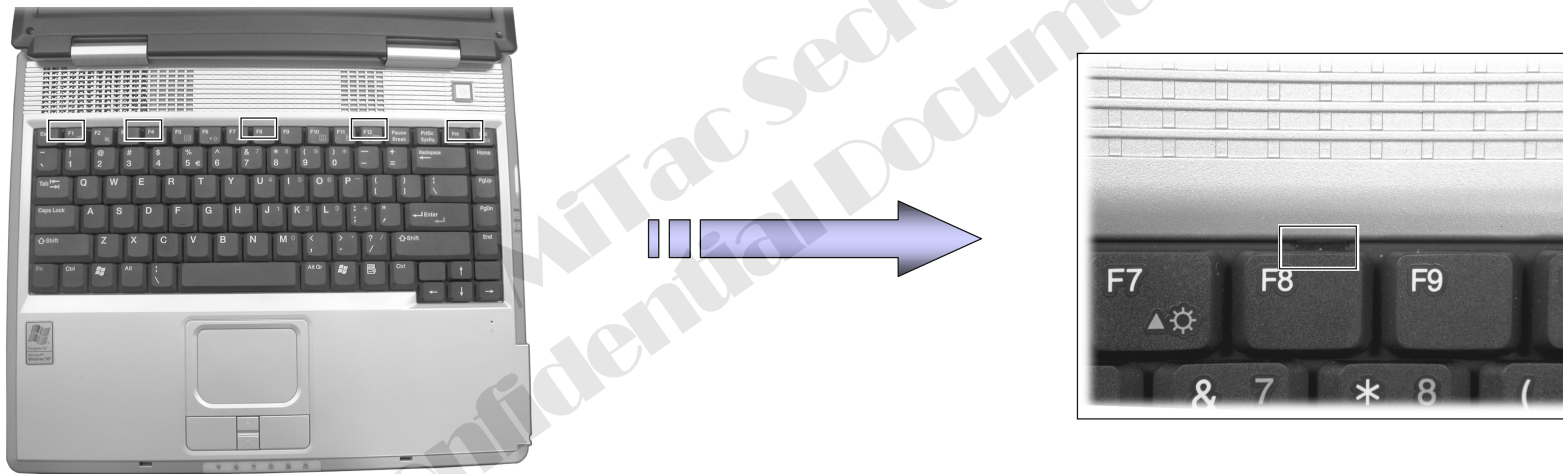

Figure 2-3 Loosen the five latches
3. Loosen the five latches locking the keyboard. (Figure 2-3)